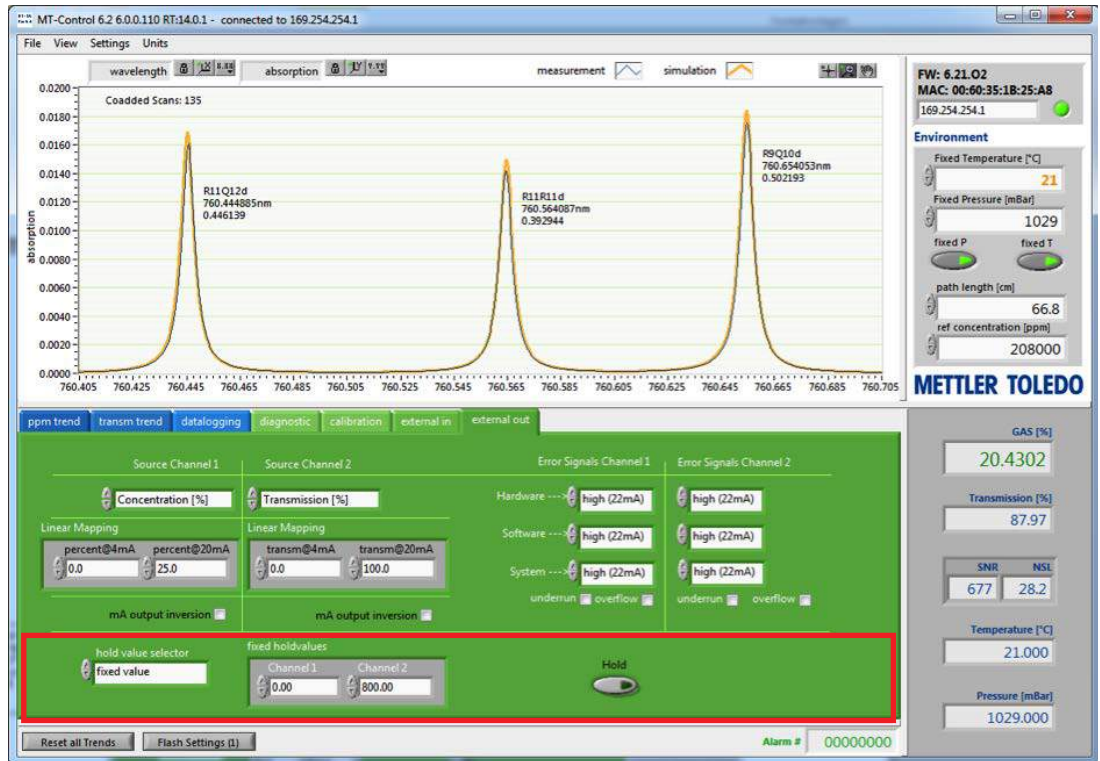

Figure 15. External out tab
- For example, for the configuration shown in Fig. 15 the fixed value for channel 1 must be set to